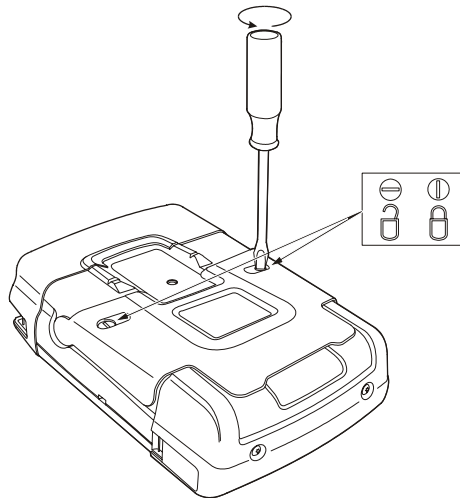

Figure 4-3. Unlocking the Battery Cover
- Unlock the battery cover at the rear of the Analyzer (turn the screws a quarter turn counter clockwise as shown in Figure 4-3).